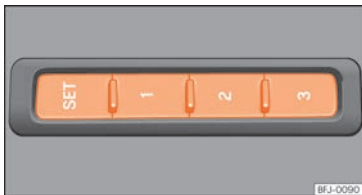

Fig. 146 On the outer side of the driver seat: memory buttons.
- Press  for longer than 1 second » **Fig. 146**.
- Press and hold the  button **»» Fig. 146.**